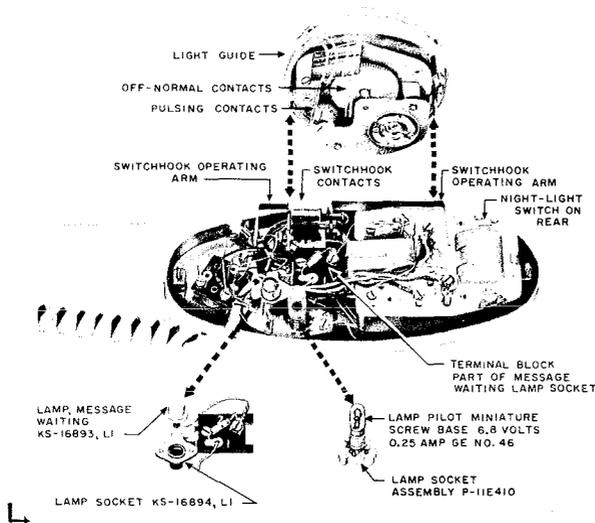

Fig. 19 — 701D Telephone Set with Dial and Lamp Socket
**4.08** The lamp socket assembly, with the lamp, is easily removed through the base of the set. It is not necessary to open the set for lamp replacement. (See Fig. 19, 20 and 21.)